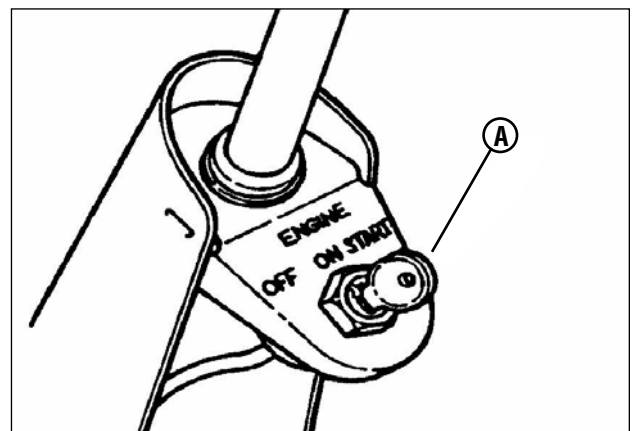

Figure 7: Ignition key
5. Turn the ignition key (A, Figure 7) to the “START” position until the engine starts.